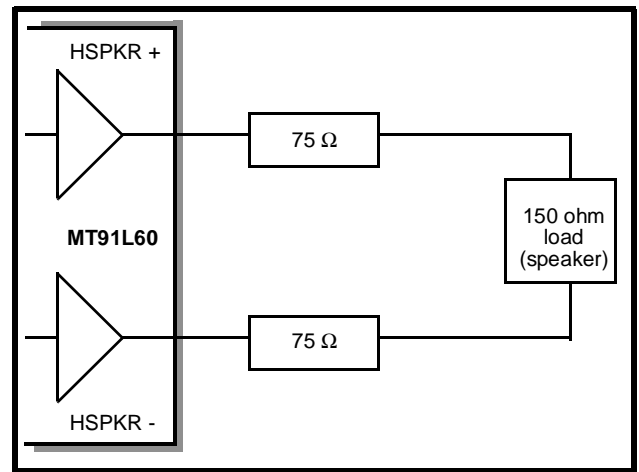

Figure 4 - Handset Speaker Driver
- The handset speaker outputs (receiver), pins HSPKR+/HSPKR-. This internally compensated fully differential output driver is capable of driving the load shown in Figure 4. The nominal handset receive path gain may be adjusted to either 0 dB, -6 dB or -12 dB. Control of this gain is provided by the RxINC control bit (Gain Control register 1, address 00h). This gain adjustment is in addition to the programmable gain provided by the receive filter.